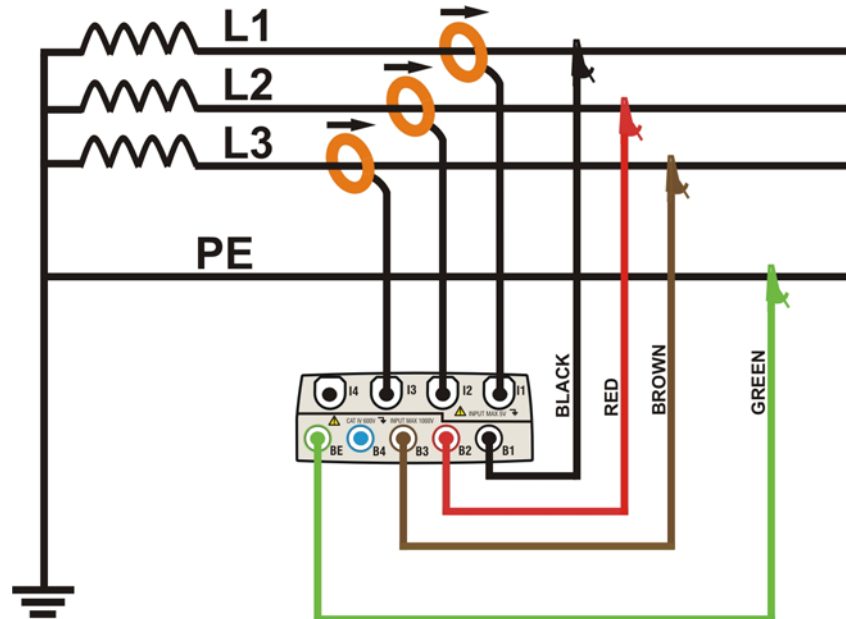

Fig. 177: Meter connection in a three phase 3-wire ARON system
2. Connect voltage test leads on Phases L1, L2, L3, and Ground cables considering the colours as shown in Fig. 177. **Verify the result “123” at display relative to a correct phase sequence indication** (see § 5.2.1) and perform the corrections if necessary.
3. Connect the transducer current clamps on Phase L1, L2, L3 cables as shown in Fig. 177 respecting the clamp's arrow direction indicating the current standard sequence from generator to load. **On Real Time Values' section screens (selecting a 3 wire system preliminarily) always verify the positive value of Active Power and the power factor relative to load which should be normally inductive** before starting a recording. Reverse the clamp by 180 degrees on cables in case of negative readings.